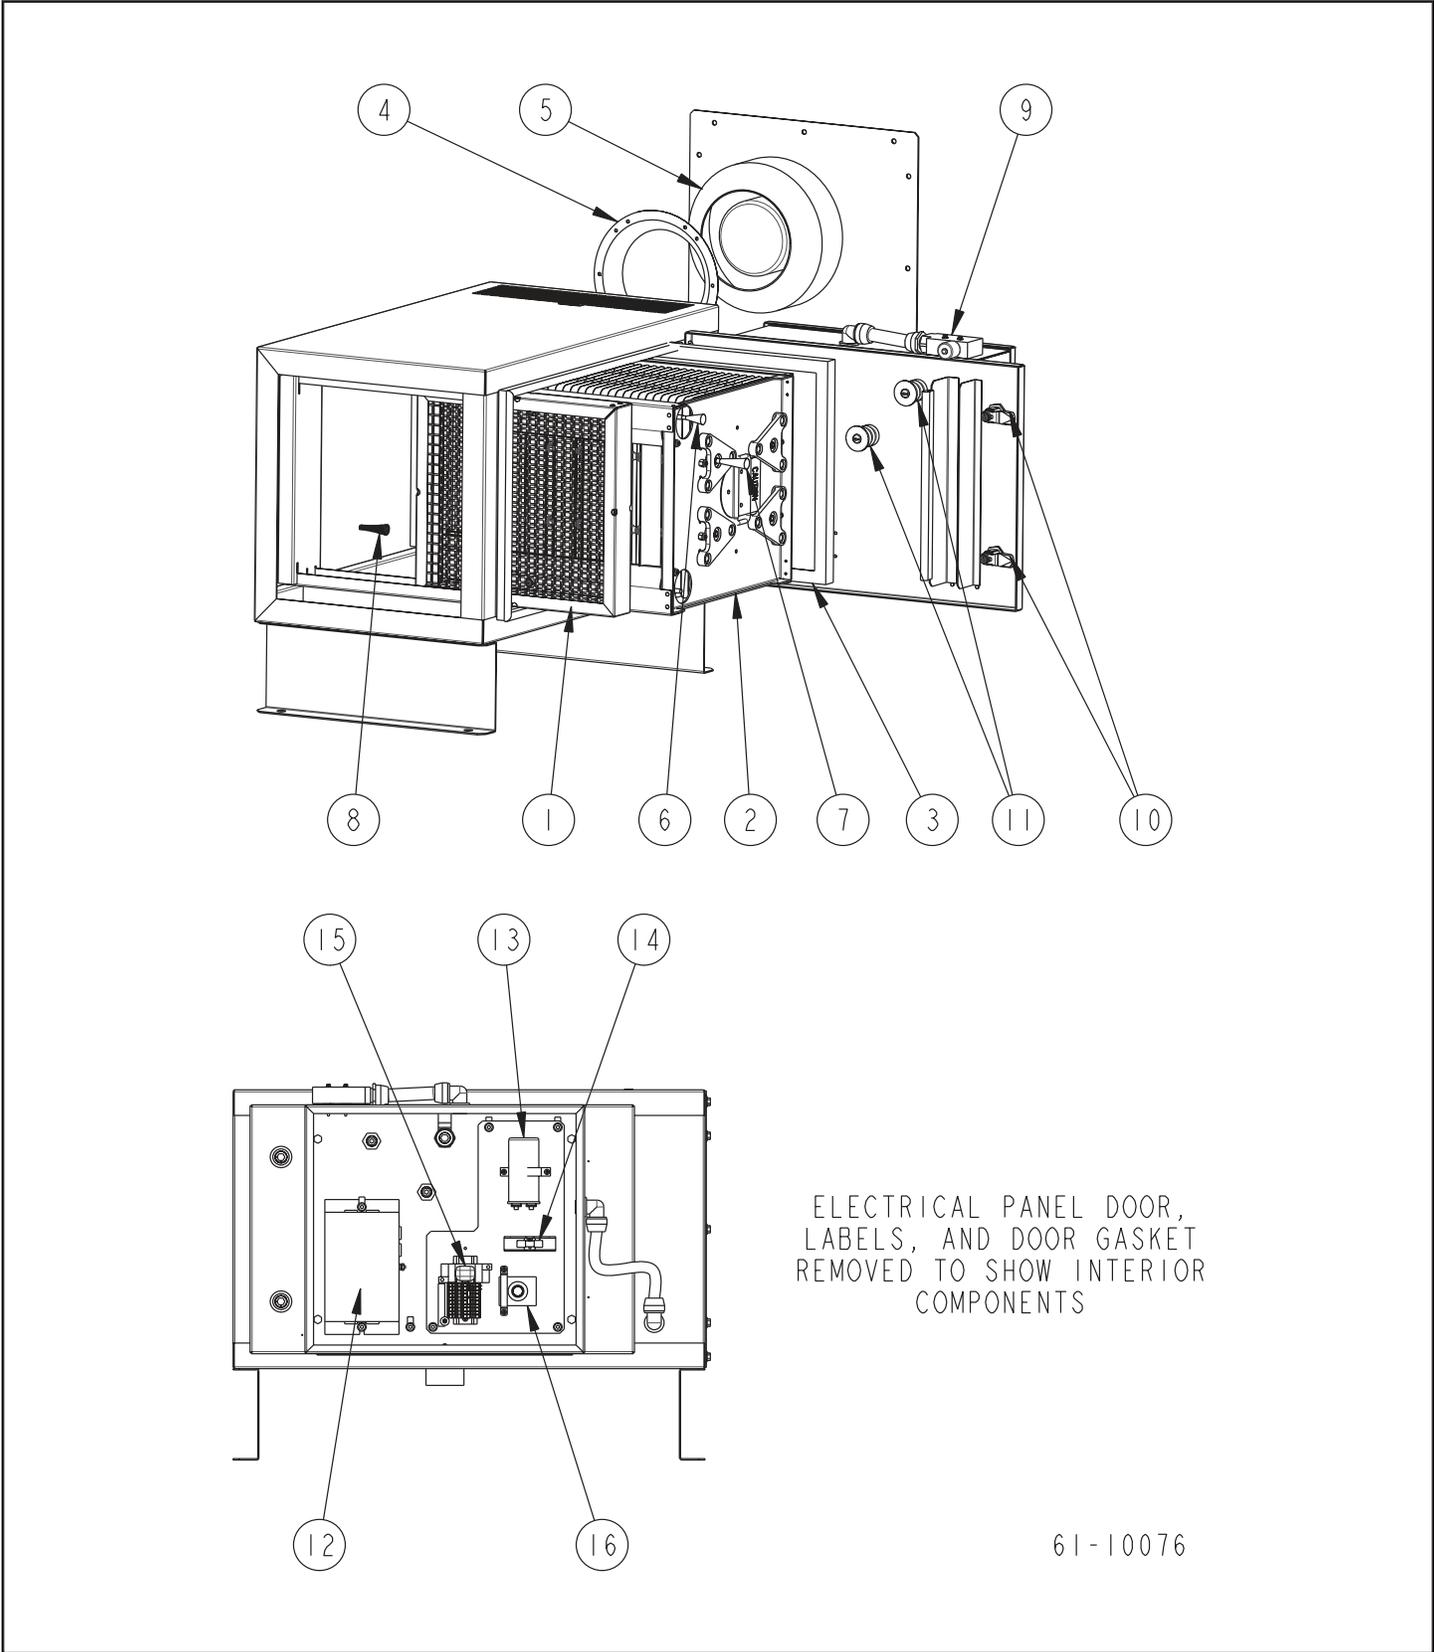

Figure 1. Unit Components
7.1 Replacement Parts List (Reference Figure 1)